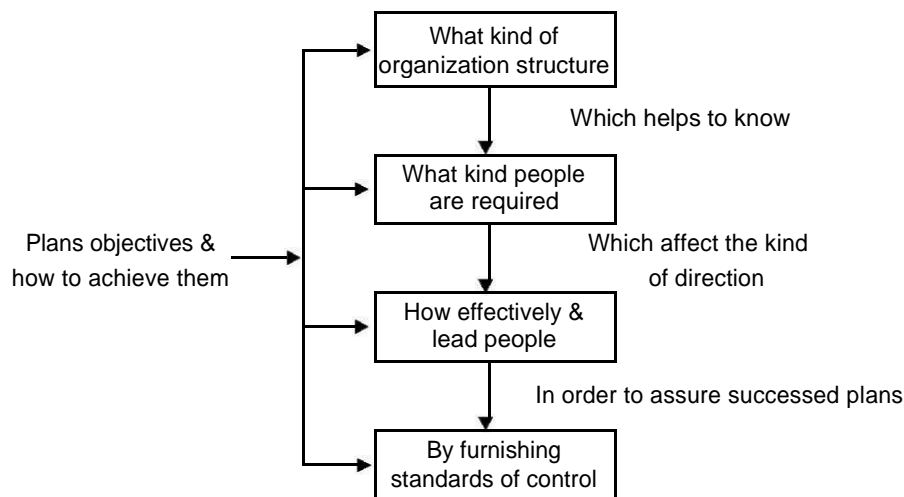

Fig. 2.3: Primacy of planning
- (1) **Primacy of planning:** Planning is the first and foremost function of management, other functions follow planning. What is not planned cannot be organized and controlled. Planning establishes the objectives and all other functions are performed to achieve the objectives set by the planning process as shown in fig 2.3.